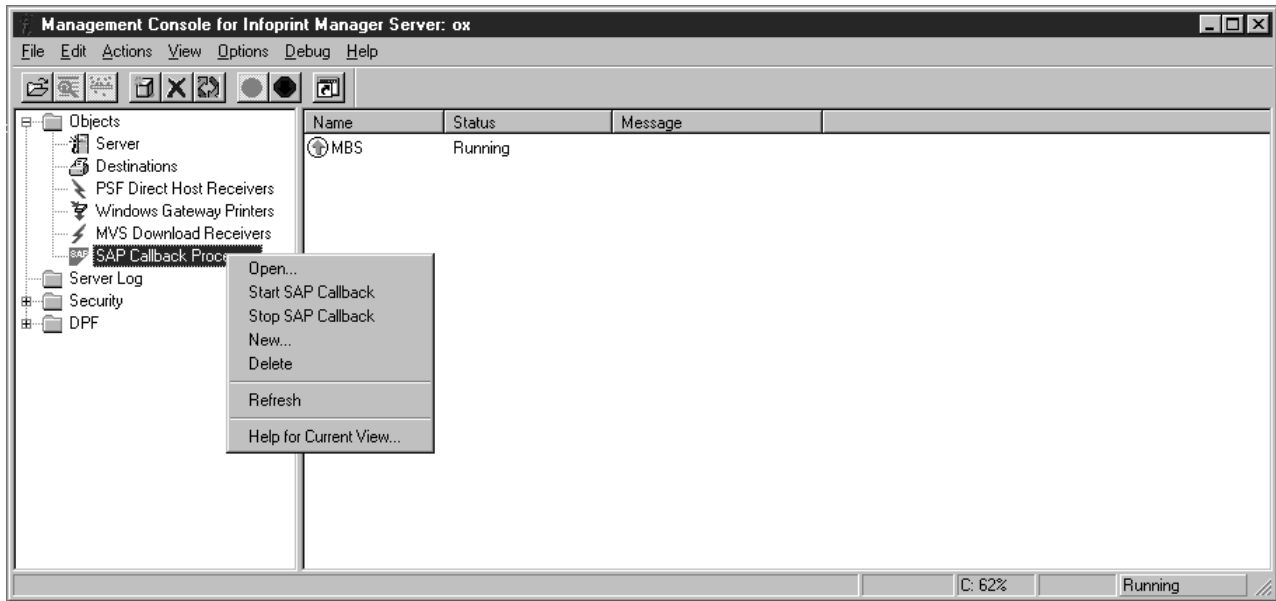

Figure 13. InfoPrint Manager Management Console main panel showing SAP Callback Processes
- If on InfoPrint Manager for Windows, use the InfoPrint Manager Management Console to left-click on SAP Callback Processes from the **Objects** view. This step allows you to access the SAP Callback Processes in the main view. From the main view, you can right-click and select **Open** (from the pop-up menu shown in Figure 13 on page 43).
Each SAP R/3 system using the InfoPrint Manager callback support needs to have one callback process running. To start the SAP callback process on an InfoPrint Manager Windows server, you must access the SAP Callback Processes from the InfoPrint Manager Management Console, shown in Figure 13 on page 43.
5. If the callback process has started correctly, the main panel should show a state of **RUNNING**, as displayed in Figure 13.